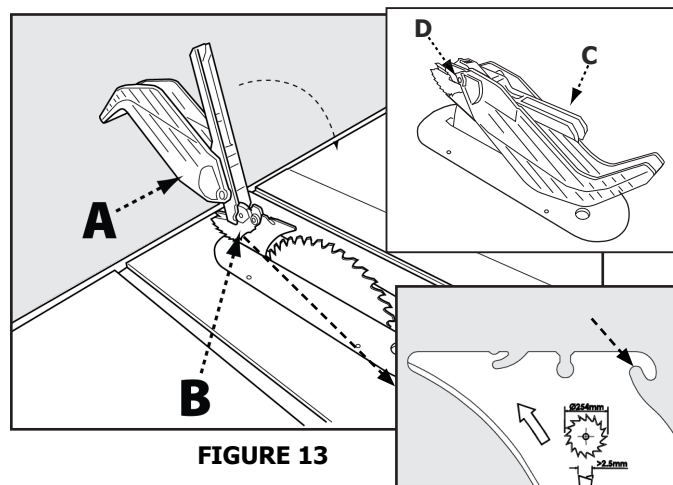

FIGURE 13
1. While holding the blade guard assembly (A) in a vertical position, hook the locating pin (B) at the back end of the blade guard assembly into the slot at the back edge of the riving knife.
2. Rotate the blade guard assembly toward the front of the saw until the metal portion (C) of the blade guard assembly is parallel to the table as shown in Figure 13.
3. While holding down on the front of the metal portion of the guard (C) press the blade guard lock lever (D) down until it snaps into the locked position. Check to make sure the guard is locked onto the riving knife by pulling on the guard. If the guard is not locked, the blade guard lock lever will flip up to the unlocked position.